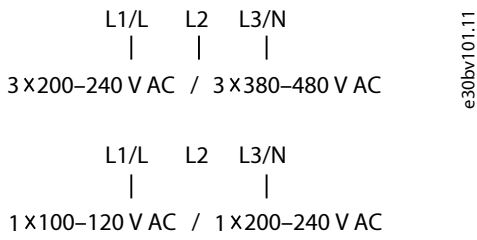

Figure 48: Single-phase and 3-phase Wire Connections
1. Connect the AC input power cables to terminals N and L for single-phase units, or to terminals L1, L2, and L3 for 3-phase units as shown in Figure 48 (see 7.10.1 Mains, Motor, and Grounding Connection for more details).